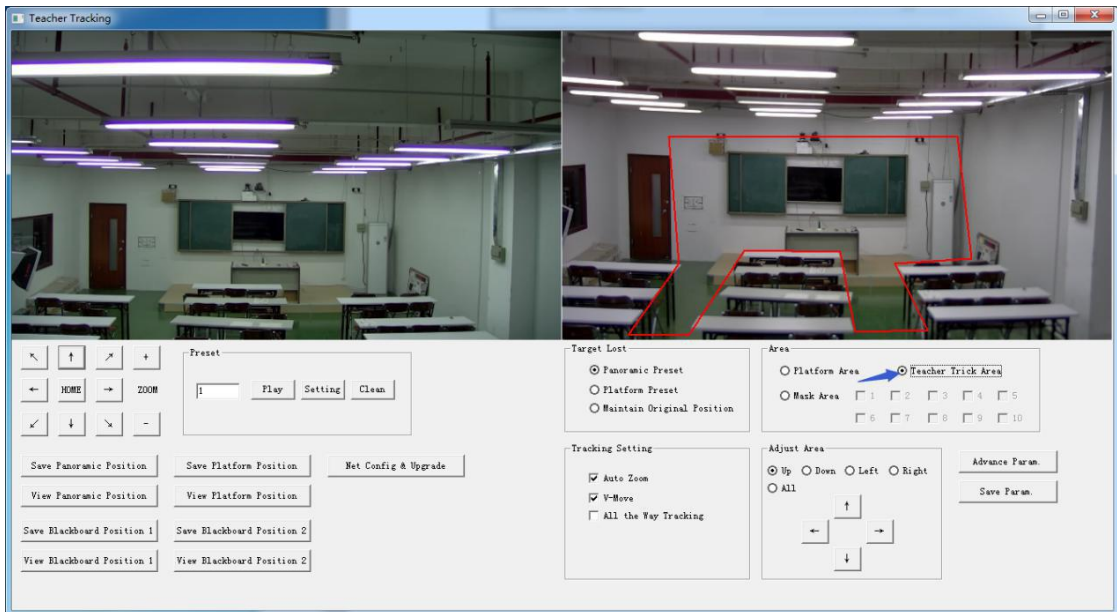

Figure 5.2-4 Operation interface
**Tracking area:** Tracking area means scope of tracking teacher. When the tracking target goes out of the tracking area, it will be considered tracking target losing. The tracking area can be set into polygon according to certain environment conditions, or set student area outside of tracking area. See Figure 5.2-4: